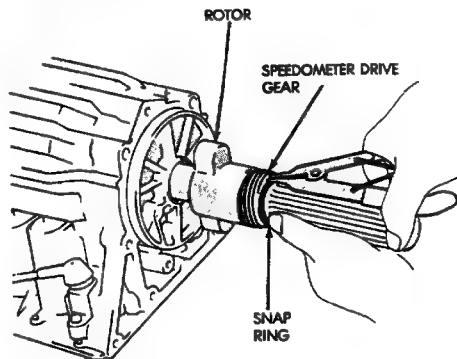
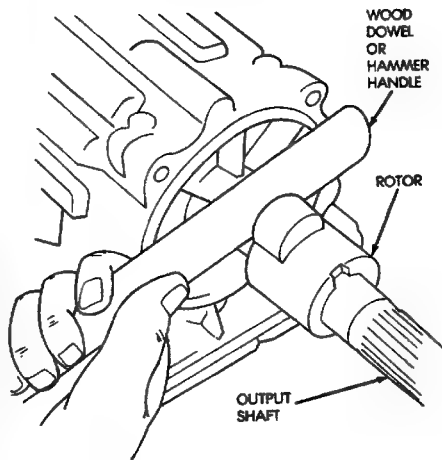

Fig. 42 Removing/Installation Speedometer Drive Gear
Fig. 43 Removing Speed Sensor Rotor
- (1) Raise vehicle.
- (2) Remove components necessary to gain access to rotor and drive gear (e.g. propeller shaft, transfer case, crossmember, shift linkage).
- (3) Disconnect speedometer cable and/or speed sensor.
- (4) Remove extension or adaptor housing.
- (5) Remove speedometer drive gear snap ring (Fig. 42).
- (6) Remove the speedometer drive gear and spacer (if equipped).
- (7) Remove rotor by carefully prying it off output shaft with wood dowel or hammer handle (Fig. 43).
- (8) Clean sealing surfaces of transmission case and extension/adaptor housing.
- (1) Install rotor, spacer (if equipped) and drive gear on output shaft. Then install drive gear snap ring (Fig. 42).
- (2) Apply bead of RTV sealer, to transmission case sealing surface and install extension/adaptor housing on case.
- (3) Tighten extension/adaptor housing bolts to 34 N·m (25 ft-lbs) torque.
- (4) Install components removed to gain access to rotor and drive gear.